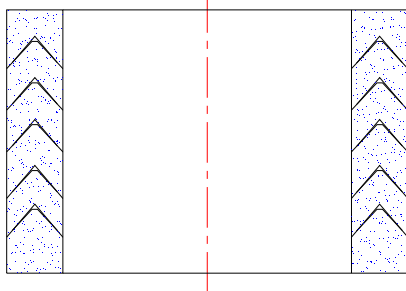

Fig.14
11.5.1 Inside of pipeline is positive pressure : Please follow (Fig.14)